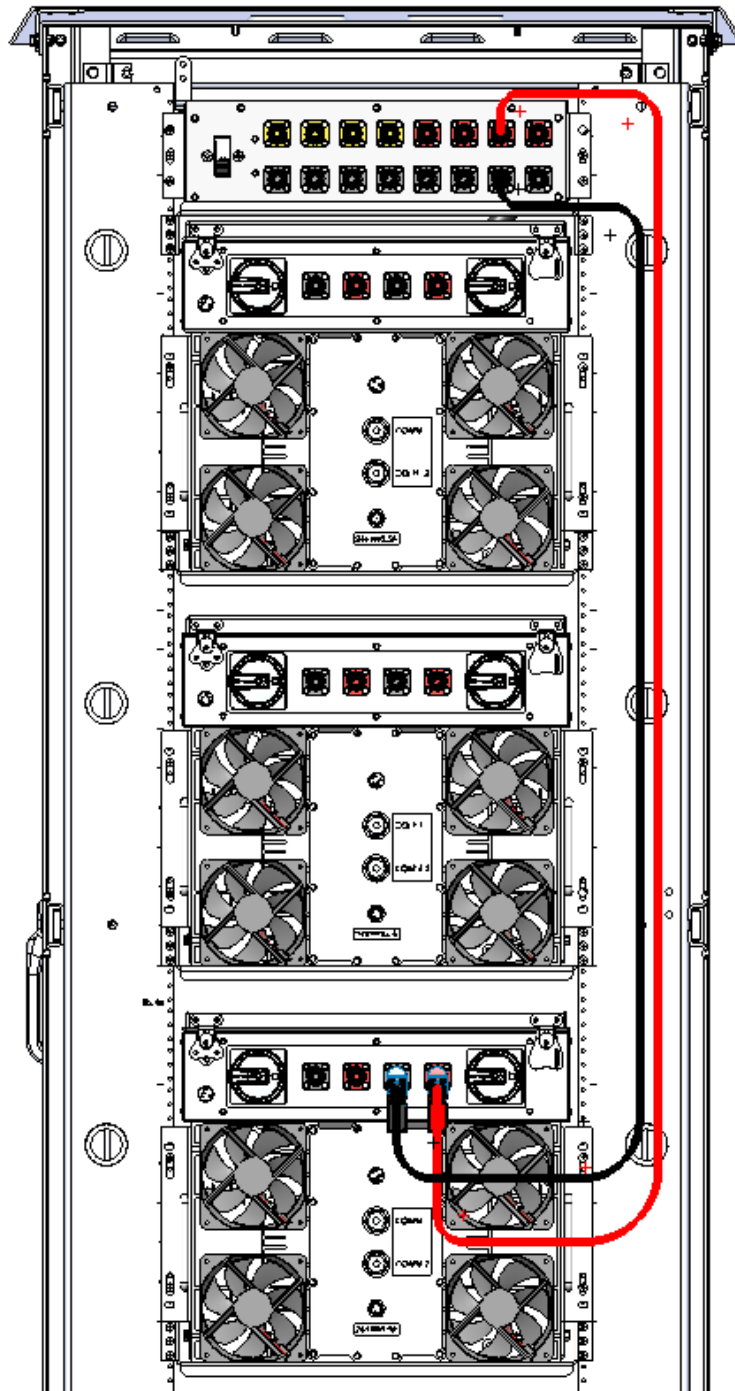

FIGURE 28: SURLOK CABLING ROUTED TO SECONDARY (OUTPUT) FEED #3
- (2) 6.5-foot SurLok Cables for SPOT #3 shown in Figure 28.